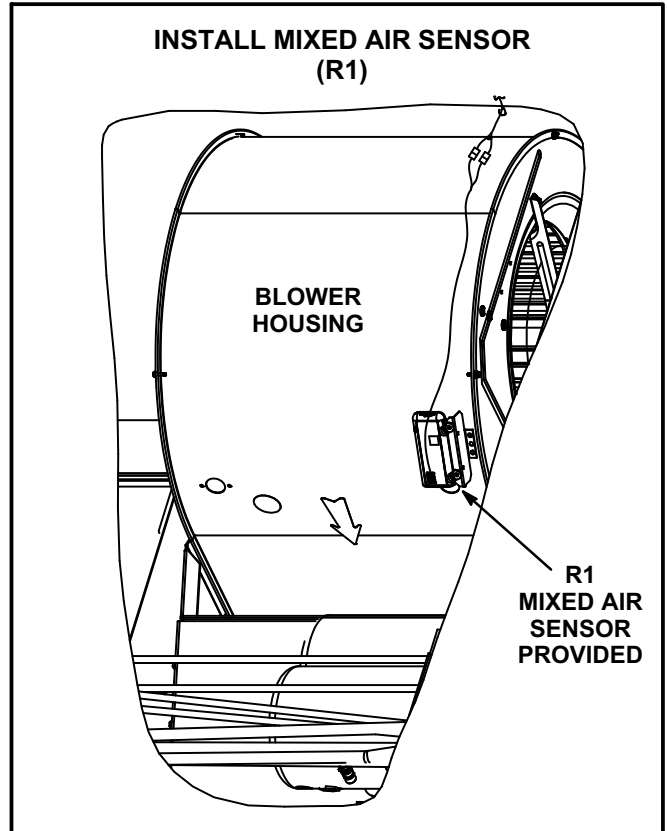

FIGURE 16
- 3- Install sensor and bracket assembly on blower housing as shown in figure 16. Secure with #8 - 32 X 1/2" TFS screws provided in kit.